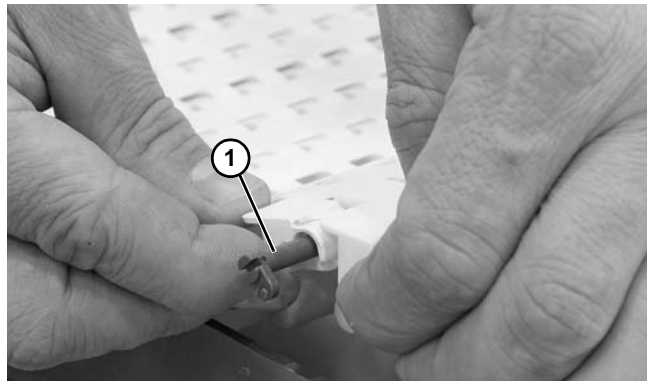

Figure 19
9. Insert the belt rod (**Figure 19, item 1**) and push it through the belt.